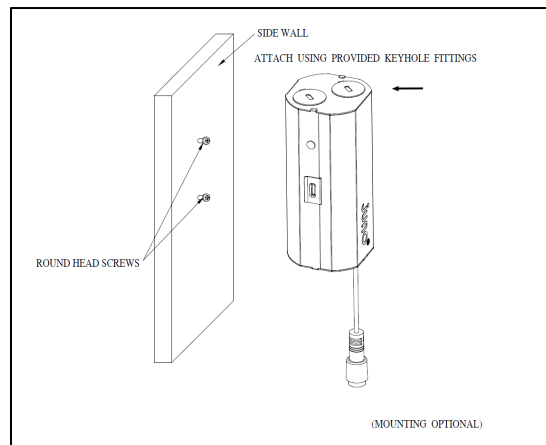

Figure 5
6. Place remote driver box through the cut-out hole (Figure 5). **MUST follow local electric code** for rigid attachment and placement of the remote driver box. For optional mounting kits, the instruction sheets for new construction plate and joist bar kit can be found at [www.acuitybrands.com](http://www.acuitybrands.com)